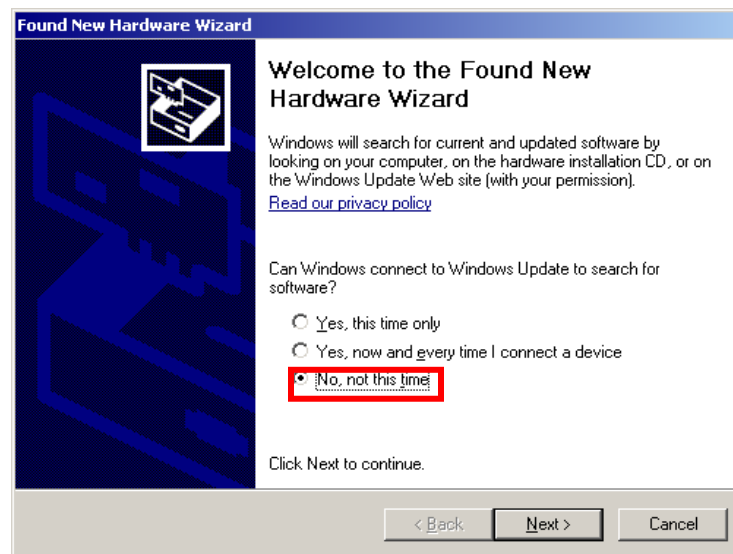

Figure 10.10 – New Hardware Wizard Start
- 4) Connect the USB cable from Printer to K86200 / K86201. When the Found New Hardware wizard starts, select **No, not this time** and click **Next**. (See Figure 10.10)